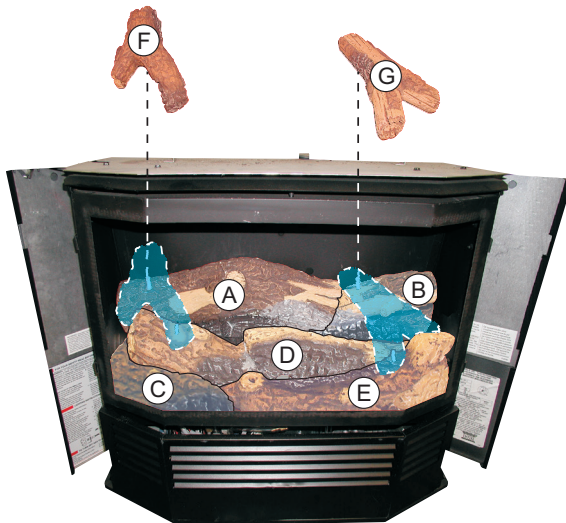

Figure 62
- Place the Top Right Log (G) onto the pins on (B), (D) and (E) Logs. The "legs" of (G) Log will rest on (D) and (E) Logs. The pins must fit into the holes in the bottom of (G) Log to ensure proper alignment of (B), (D) and (E) Logs. See Figure 62.